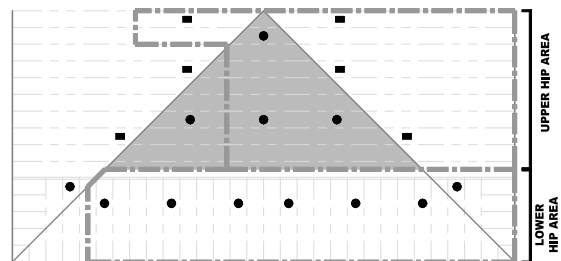

FIGURE 15B
- Calculate up to the 7 most demanding contiguous sprinklers along the eave. This may include sprinklers on both sides of the hip line as shown. See FIGURE 15B.
If there are 4 sprinklers or less in the shaded area (FIGURE 15B):